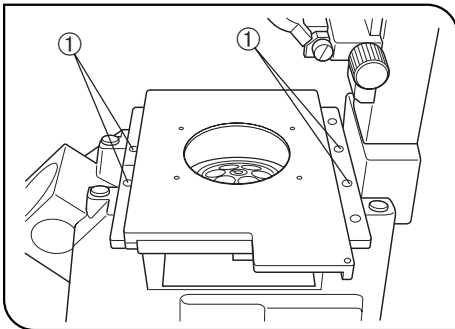

Fig. 66
(Figs. 66 to 68)
2. Insert the four provided Allen screws into the mounting holes ①. Tighten the screws using the provided Allen wrench. (Fig. 66)